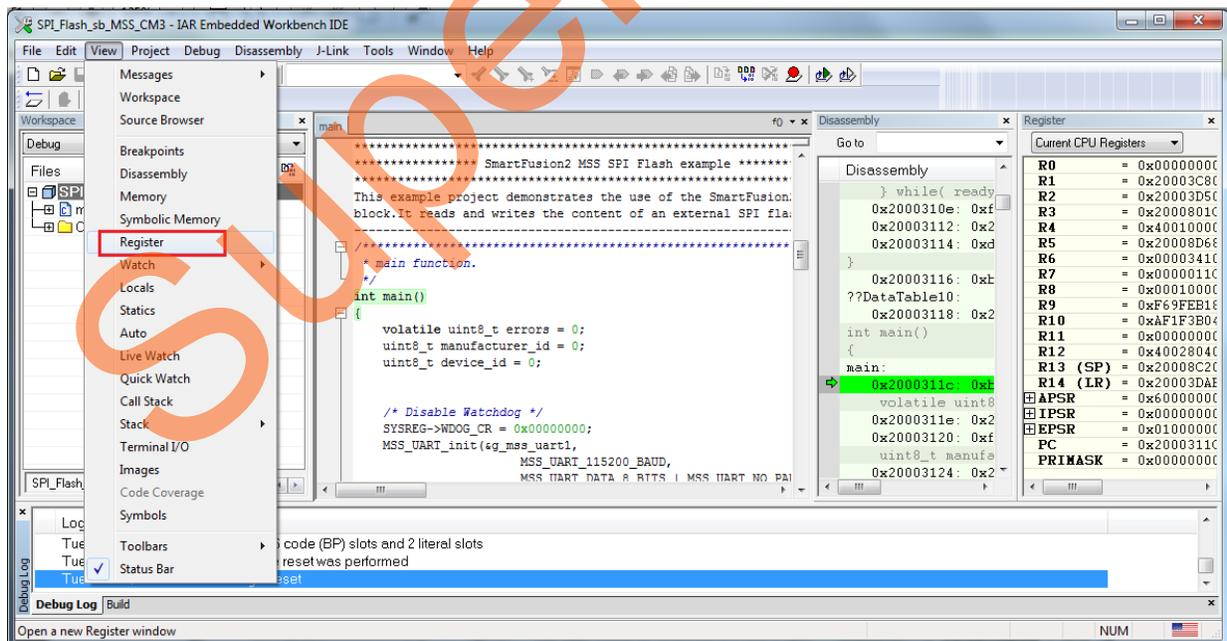

Figure 46 • Values of Cortex-M3 Internal Registers
- Click **View > Register** to view the values of the ARM® Cortex®-M3 processor internal registers, as shown in Figure 46.